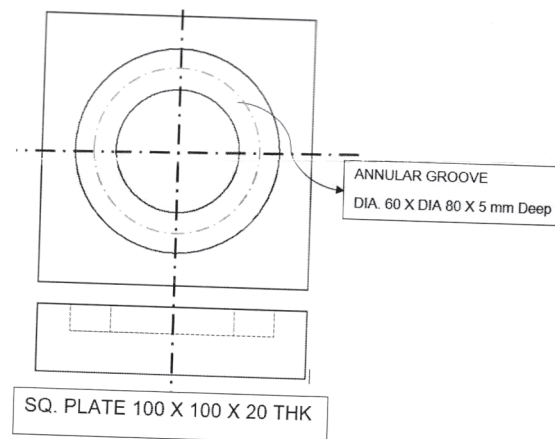

Figure 2: Qu 5(b)
- b) Write CNC part programming for Milling for component as shown in figure 2 using concept of sub-programming with 1 mm step. Assume suitable cutting data. [12]